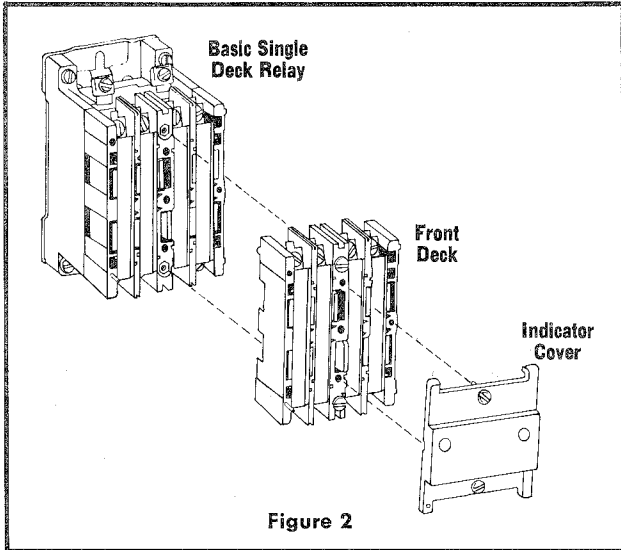

Figure 2
**ADDING FRONT DECK** — A second or front deck may be added to any relay having a rear deck only, increasing the maximum number of poles available to a total of eight, either N.O. or N.C. or combinations thereof. To add the front deck, first remove the cover by loosening the two captive screws. Inspect the front deck to be sure all ten metal flux fingers are in place. Place the front deck on the rear deck and secure deck with captive screws. Replace the cover. The decks are keyed to provide proper orientation. The coil of the relay does not have to be changed when a front deck is added to the relay. See Figure 2.